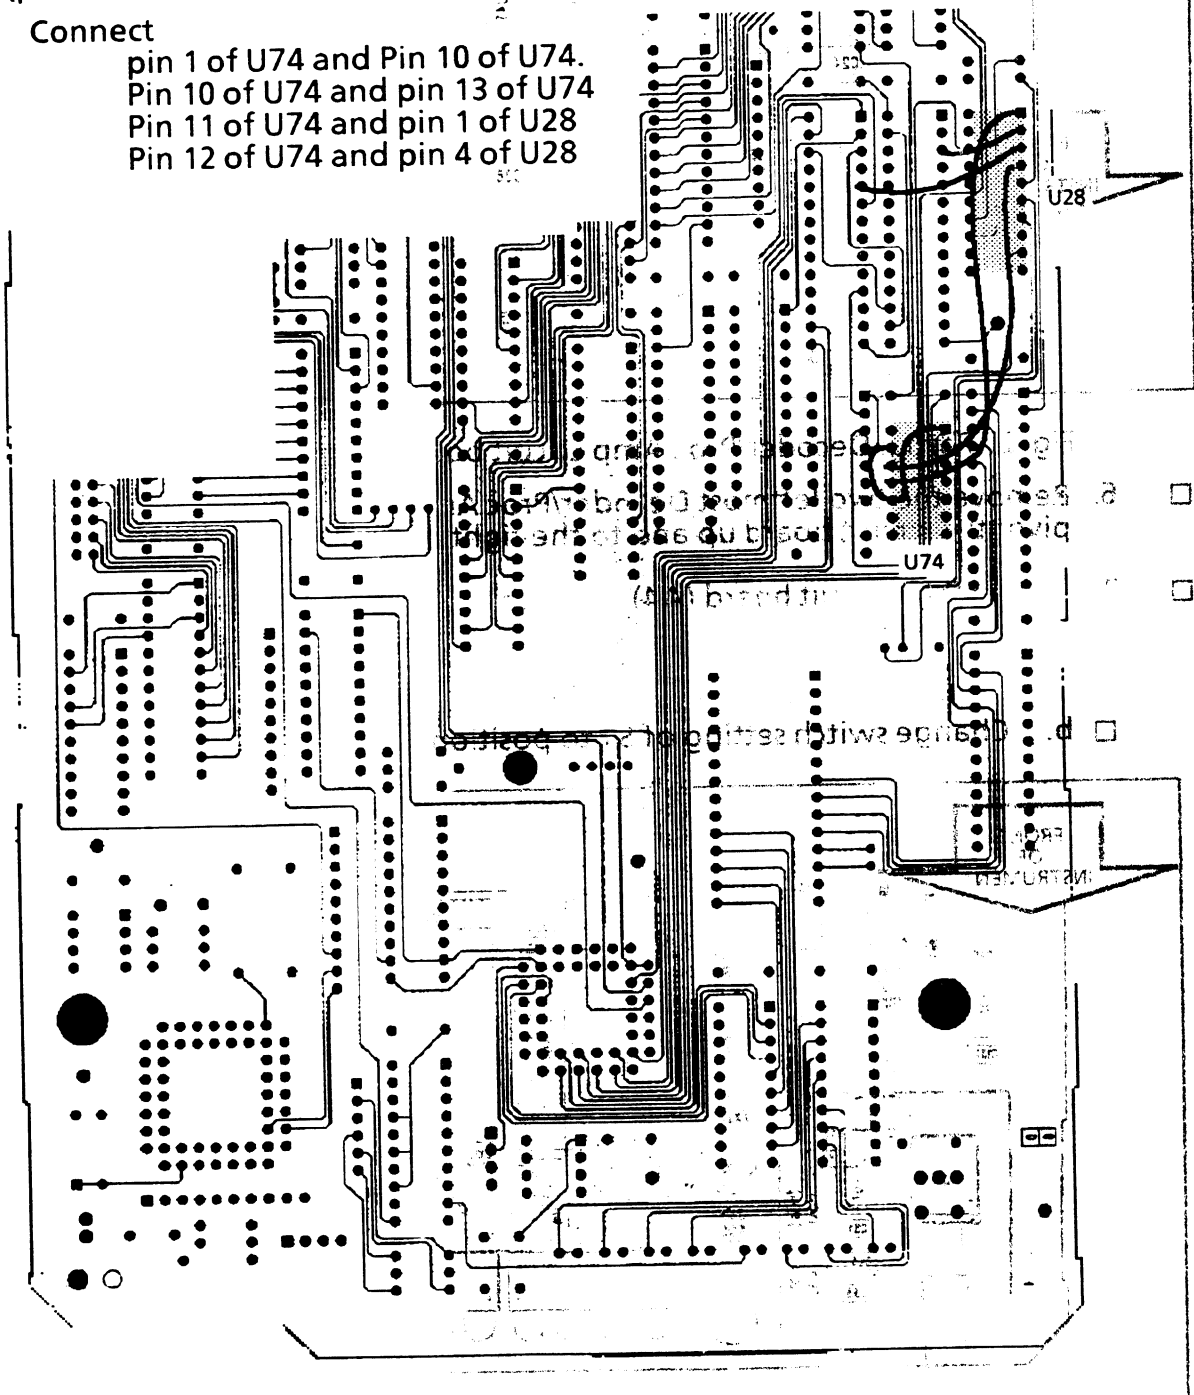

Fig. 4. Partial Memory Controller circuit board (back side) showing added wires.
- 11. On the back side of the Memory Controller circuit board (A3) add wiring (provided in the kit) as follows (refer to fig. 4):